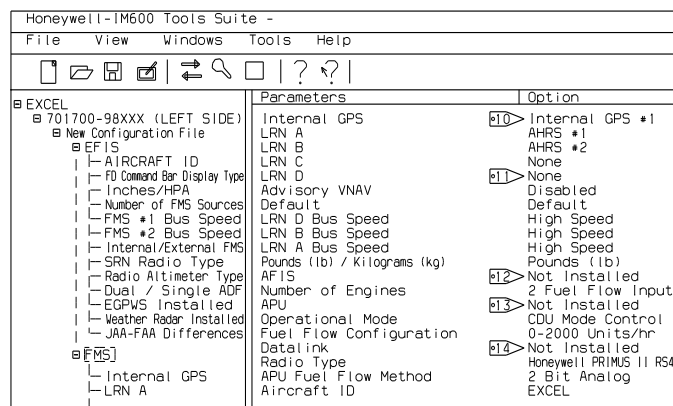

FIGURE 2. HONEYWELL FMS CONFIGURATIONS.
- 8 AFTER THE EFIS PARAMETERS ARE CONFIGURED, SELECT FMS FROM THE TREE MENU ON THE LEFT. THE FMS PARAMETERS AND OPTIONS WILL APPEAR SIMILAR TO FIGURE 2. SELECT THE OPTIONS SHOWN IN FIGURE 2 EXCEPT AS NOTED.